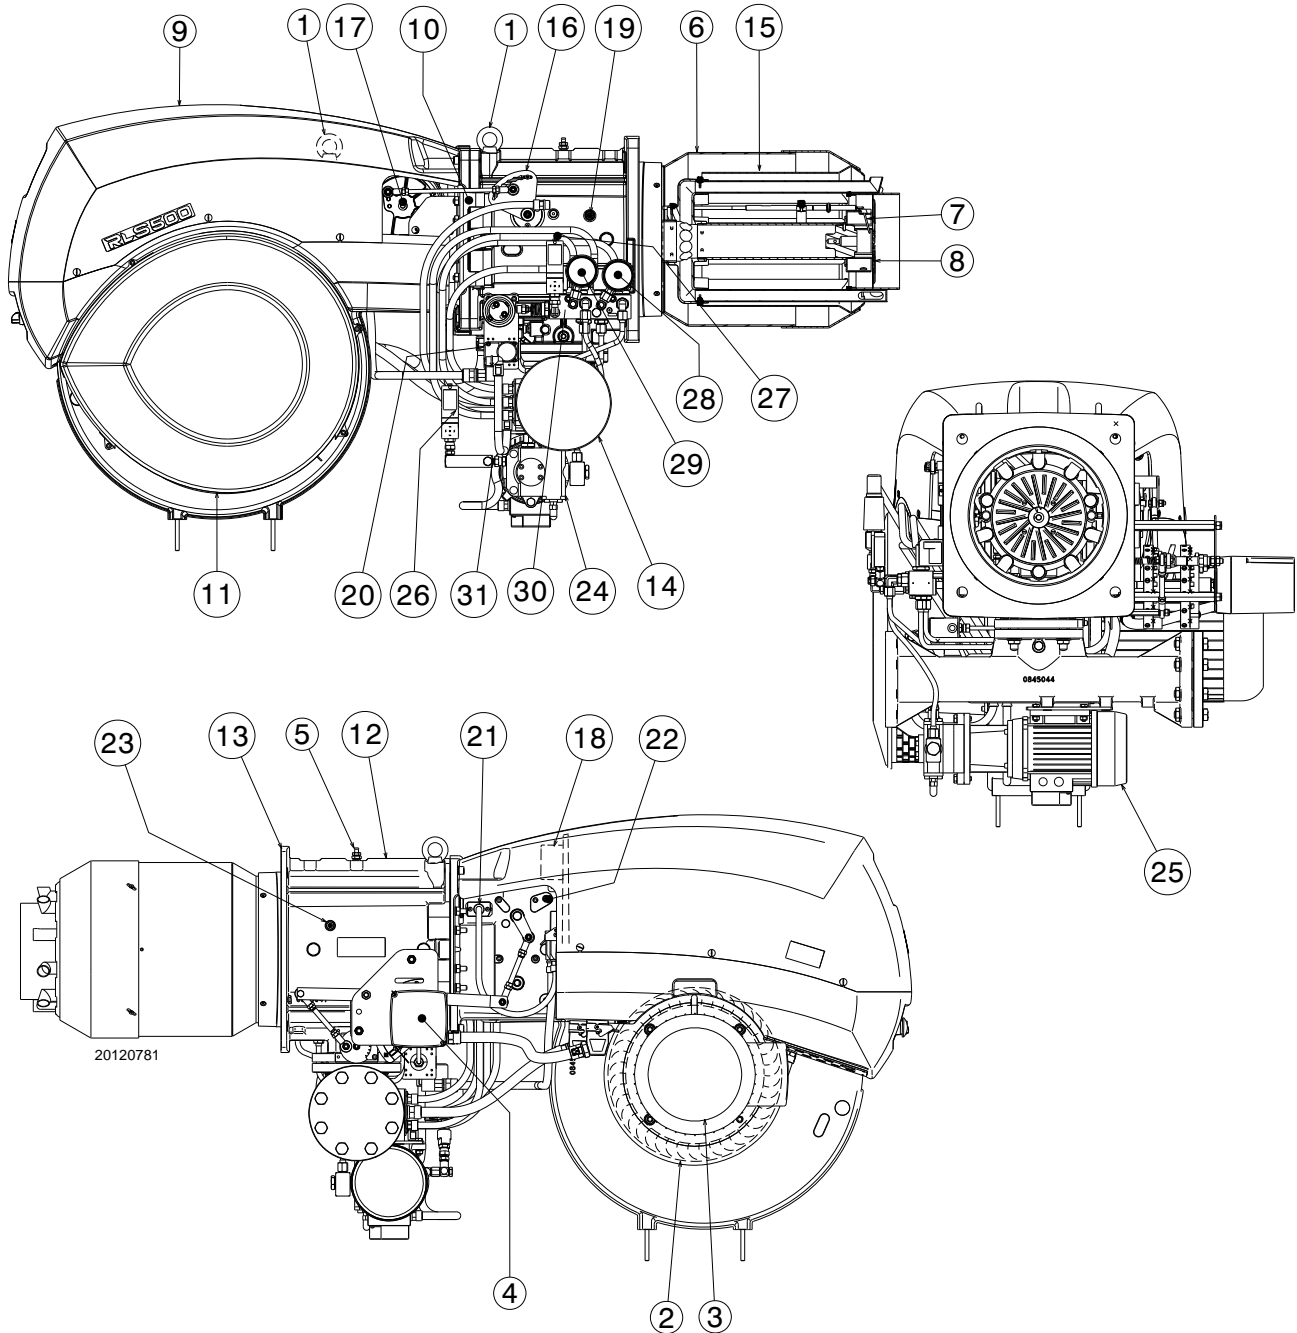

Fig. 4
(1) Reference conditions: Ambient temperature 20°C - Gas temperature 15°C - Barometric pressure 1013 mbar - Altitude 0 m a.s.l.
(2) Pressure at test point 5)(Fig. 4) with zero pressure in the combustion chamber and maximum burner output.
(3) Sound pressure measured in manufacturer's combustion laboratory, with burner operating on test boiler and at maximum rated output. The sound power is measured with the "Free Field" method, as per EN 15036, and according to an "Accuracy: Category 3" measuring accuracy, as set out in EN ISO 3746.